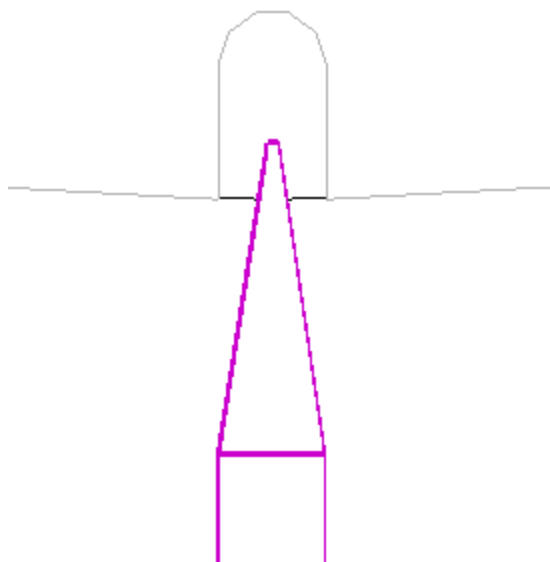

Figure 1
- When the carrier is correctly aligned, when after homing the carrier, the indicator falls within the 5/64" range of the simulated carousel 3 out of 3 times. See Figure 1.
- 4.3. When the indicator is in the range (See Figure 1), adjust the sensor bracket so that the CARRIER HOME and CARRIER POSITION lights are on.
- 4.5. Verify the carrier alignment (see Figure 1) .